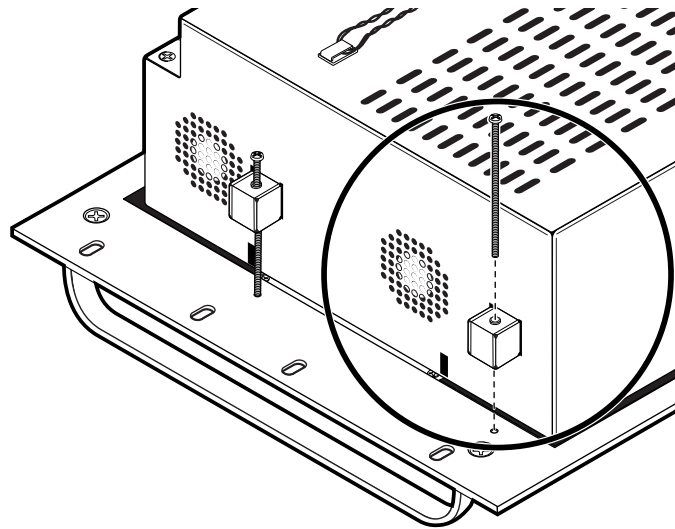

Figure 2-3 — Inserting the machine screws
7. Tighten the screws until they just contact the rack-mounting panel. Move the panel as necessary to ensure that the four screws contact the panel in the inset holes (figure 2-3).